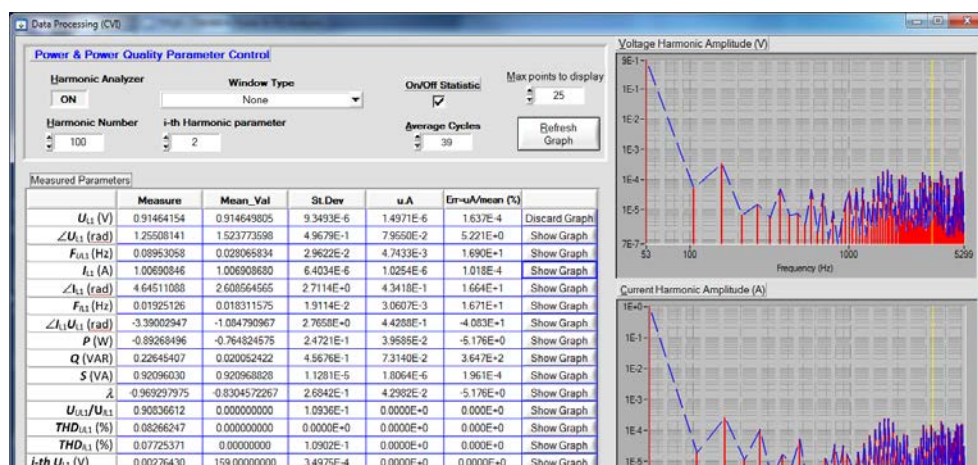

Figure A.17: Preliminary (on-line) data processing using NI-CVI FFT algorithms.
The second GUI for data processing elaboration can be activated by pressing “**CVI Data Processing**” command button, Figure A.16, which opens the panel shown in Figure A.17
- “**CVI Data Processing**” command button opens the panel shown in Figure A.17. Here there are situated the main waveform parameters computed using native algorithms furnished by NI (National Instruments).